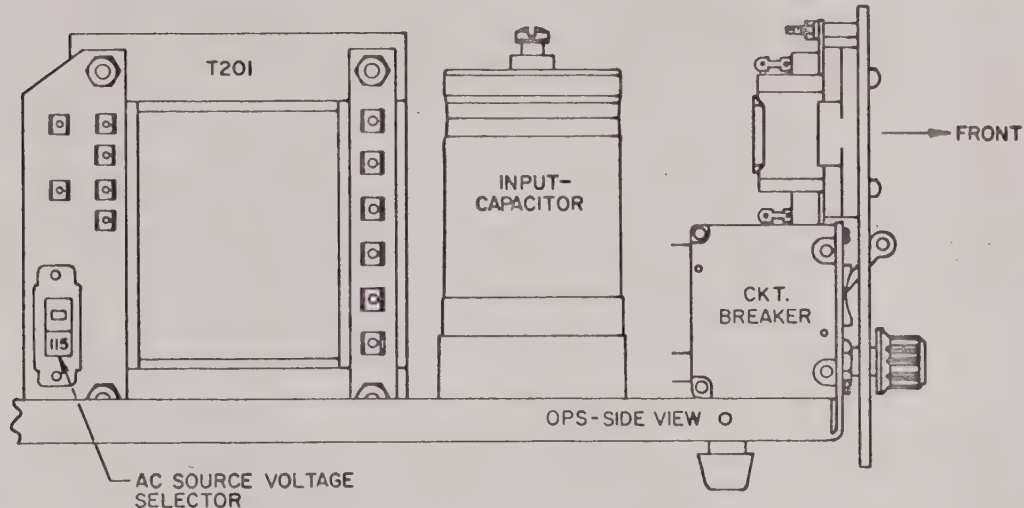

FIG. 2-4 CONVERSION FOR 230V A-C NOMINAL SOURCE.
- 2-5 This power supply is normally supplied for operation on a single phase, nominal 115V a-c line. For conversion to 230V a-c line operation, refer to FIG. 2-4. Simply set the A-C SOURCE VOLTAGE SELECTOR switch to the "230" position. The circuit breaker (CB101) remains equally effective at *both* input voltages.